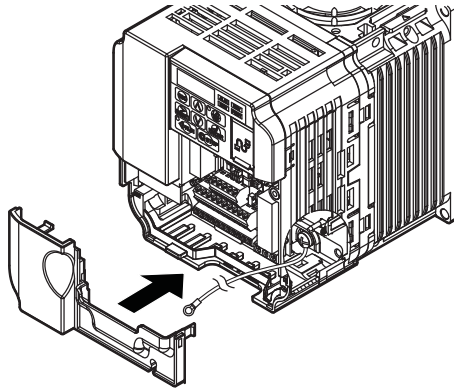
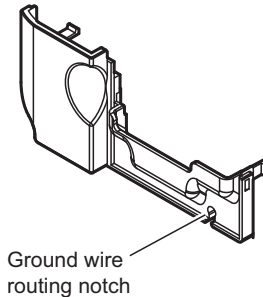

Figure 13 Reattach the Terminal Cover
Figure 14 Terminal Cover Ground Wire Notch
- 10.** On models CIMR-V□BA0006□ to BA0018□, 2A0008□ to 2A0069□, and 4A0001□ to 4A0038□, reattach the terminal cover. Refer to Figure 13 and Figure 14 for drive models CIMR-V□BA0006□ to BA0018□, 2A0008□ to 2A0020□, and 4A0001□ to 4A0011□, which require routing the ground wire through the provided notch when reinstalling the terminal cover.